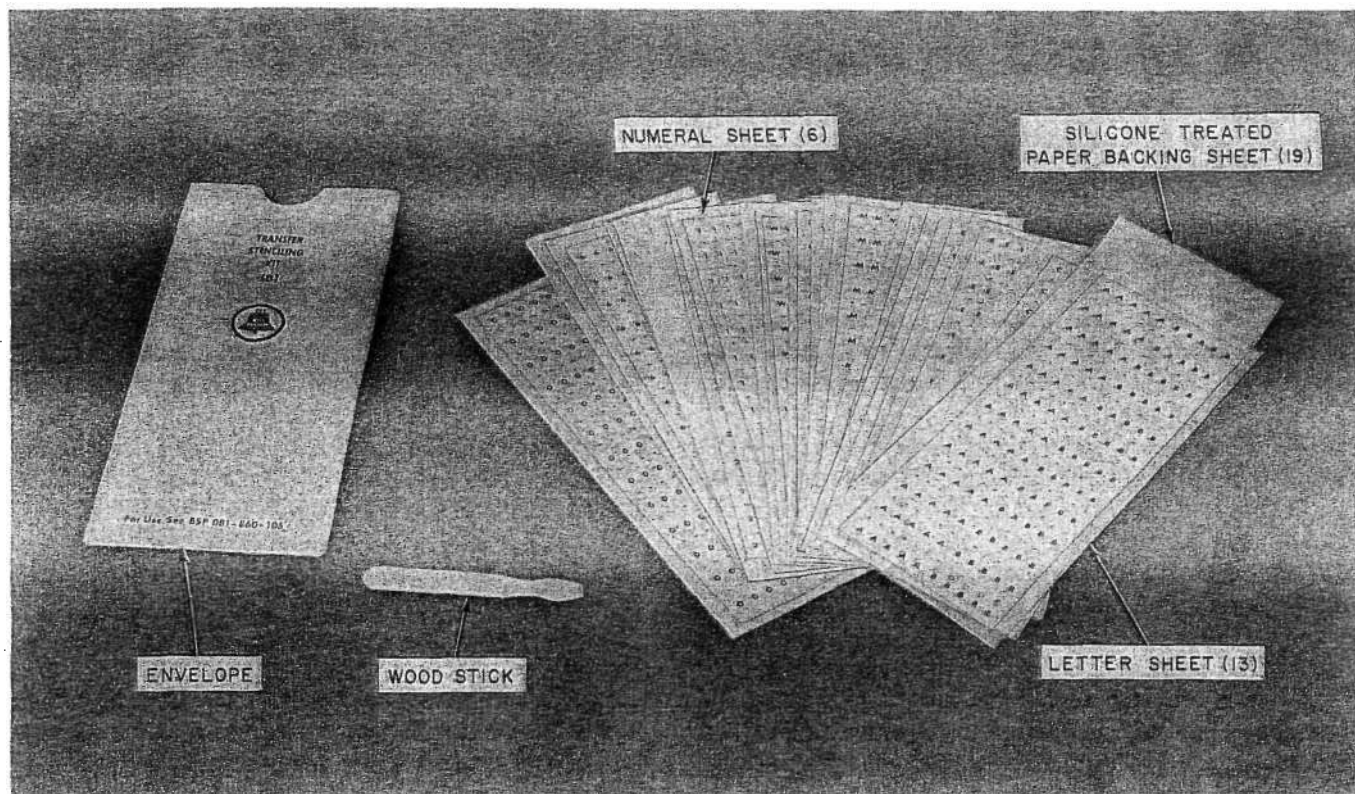

Fig. 1—B Transfer Stenciling Kit
2.07 ♦The B Transfer Stenciling Kit (Fig. 1) contains *black* letters and numerals for application to light colored surfaces.♦